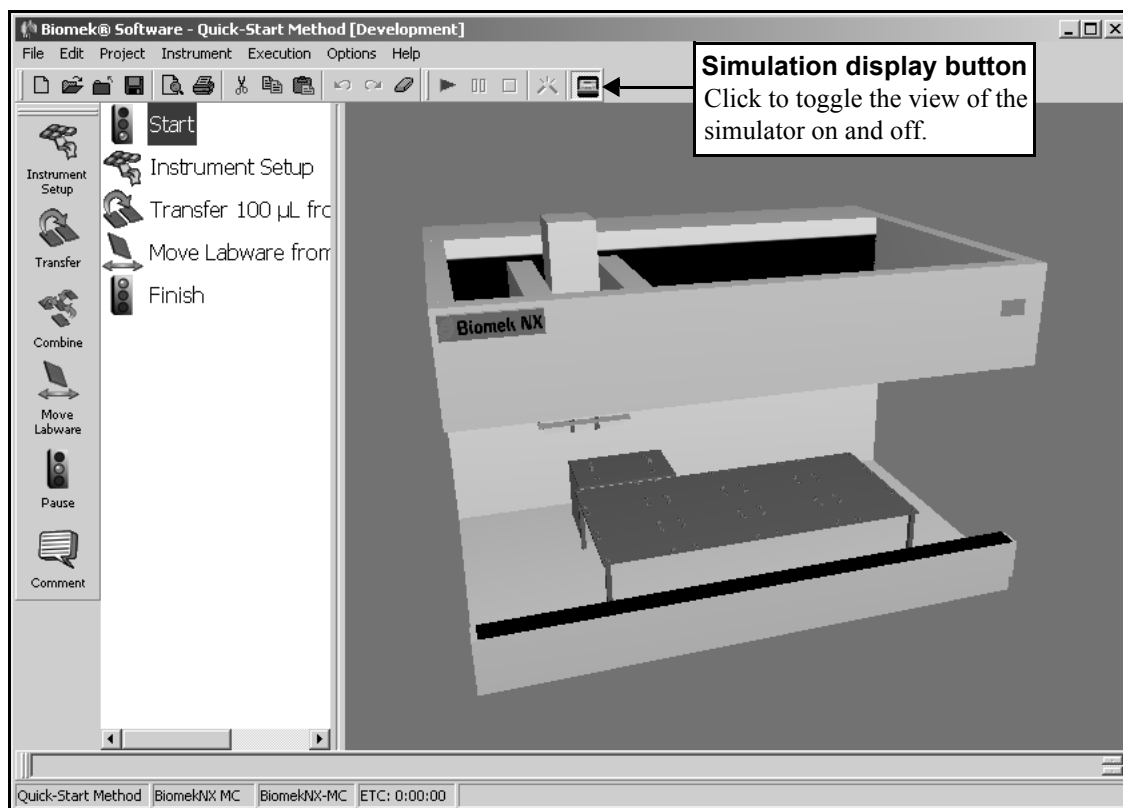
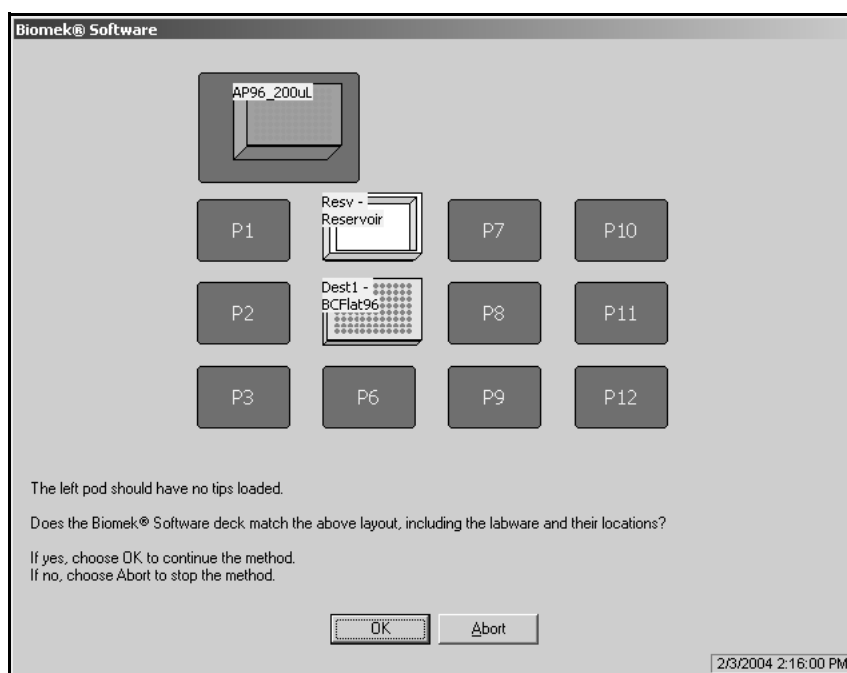

Figure 2-16. Biomek NX simulator displayed
Figure 2-17. Deck confirmation prompt for Quick Start method
- Click on the **green arrow** button on the toolbar. The simulation display is automatically launched and the step configuration area is replaced with a three-dimensional model of your Biomek NX (Figure 2-16). The deck confirmation prompt (Figure 2-17) appears on top of the main editor.